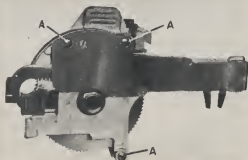

Fig. 7—Upper saw assembly.
UPPER SAW: Loosen the screw holding the clip over the saw oiler tube and remove the oiler from the saw carriage by sliding forward off of the lugs. Remove the three fillister head screws (A) Fig. 7, which will allow the saw clamp assembly to be separated from the saw carriage, exposing the saw mandrel nut. Set the saw carriage at about mid scale as shown in Fig. 8, place a wrench on the flat of the shaft as shown and with another wrench loosen the mandrel nut. Upper saw mandrel nut has a *right-hand thread*. Remove the cover from the lower end of the saw shaft which is held with four screws. Using the wrench on the flat of the shaft as a lever, work the saw shaft and lower bearing out far enough to permit the dull saw to be removed from the machine.
If motion of saw clamps becomes rough, it is due to accumulation of dirt and chips in clamp slides. Remove saw clamp shield, take out four screws in side cover plate, Fig. 7, and two screws holding inner finger spring assembly to saw clamp housing. Wash clamps and slides with gasoline, wiping clean. Lubricate and reassemble, taking care that small roller on clamp finger is in place.